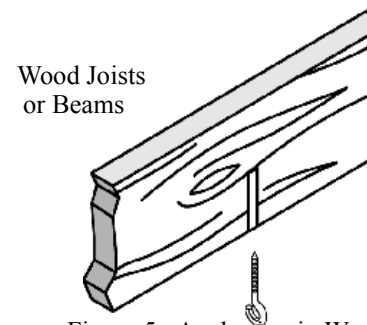

Figure 5. Anchoring in Wood
- **Wood Joists or Beams.** Drill four 5/32-in. dia. holes, at least 2 in. deep (4-mm dia. holes, 51 mm deep). Fully insert eye lag screws (see Figure 5).